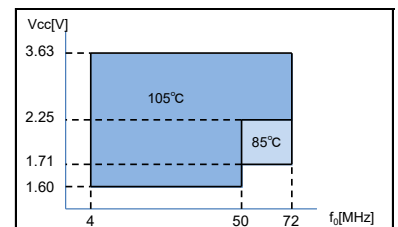

Figure 1 : The upper limit of Operating temperature and the related conditions
- ① Model ② Output(C: CMOS) ③ Frequency ④ Supply voltage
- ⑤ Frequency tolerance ⑥ Operating temperature range
- ⑦ Internal identification code("A" is default)
④ Supply voltage *See Figure 1	⑤ Frequency tolerance / ⑥ Operating temperature range
- ① Model ② Function(S: Standby) ③ Supply voltage
- ④ Frequency ⑤ Frequency tolerance
③ Supply voltage *See Figure 1	⑤ Frequency tolerance